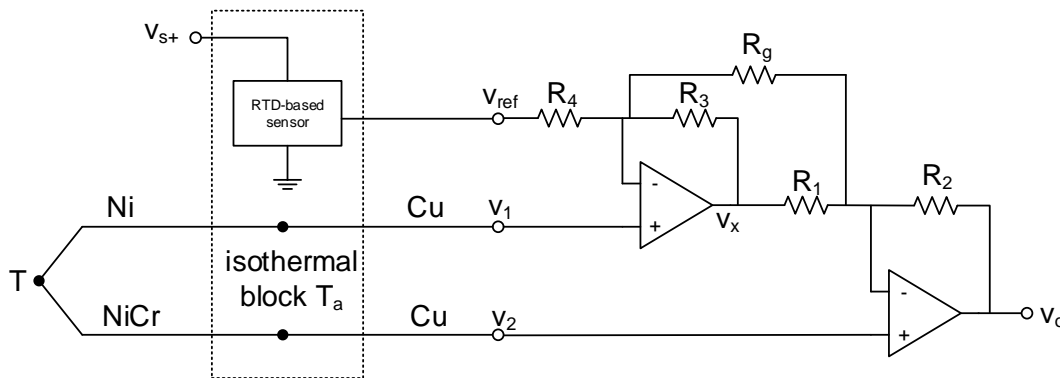
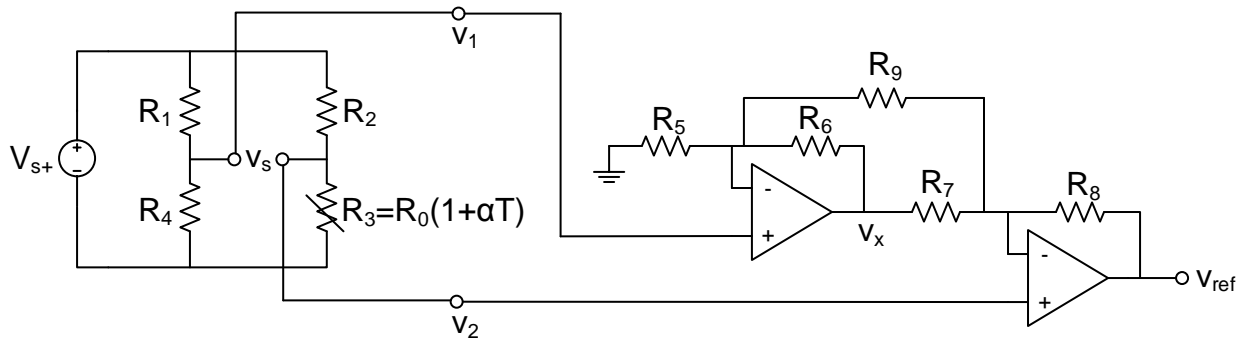

Figure 6: Compensation with a RTD-based sensor and instrumentation amplifier.
Figure 7: Implementation of "RTD-based sensor" block of Figure 6.
- (5p) (d) The thermocouple sensor is connected in the sensing circuit as shown in Figure 6. This circuit contains a reference junction compensation based on a RTD temperature sensor. The output voltage of this sensor ( $v_{ref}$ ) is given by the following transfer function:  $v_{ref} = 5\text{mV}/^\circ\text{C} \cdot T_a$  with  $T_a$  the ambient temperature at the reference junction. The output of the reference temperature sensor is connected to the reference input of the instrumentation amplifier. It holds for this instrumentation amplifier:
There are three important law that you can use when analysing thermocouples, namely the law of the homogeneous circuits, the law of intermediate metals, and the law of intermediate temperatures. Show using these laws that the voltage across the thermocouple shown in Figure 6 is equal to:
- (5p) (f) The circuit shown in Figure 7 is used to generate the reference voltage  $v_{ref}$  for the thermocouple sensor shown in Figure 6. In other words, Figure 7 shows the internals of the block "RTD-based sensor" in Figure 6. Assume that the supply voltage  $v_{s+}$  is equal to 5 V. Assume further that resistor  $R_3$  is a temperature dependent resistor (RTD) of type PT100. Its relation between temperature and resistance (transfer function) can be approximated with the following linear equation:  $R_3(T) = R_0(1 + \alpha T)$ , with  $R_0$  equal to  $100\Omega$  and  $\alpha = 0.004/^\circ\text{C}$ . Assume also that  $R_4 = R_5 = R_6 = R_7 = R_8 = R_9 = R_0$  and  $R_1 = R_2 = k \cdot R_0$ . What resistance should the resistor  $R_2$  have to ensure that the "RTD-based sensor" has a sensitivity of  $5\text{mV}/^\circ\text{C}$ ?